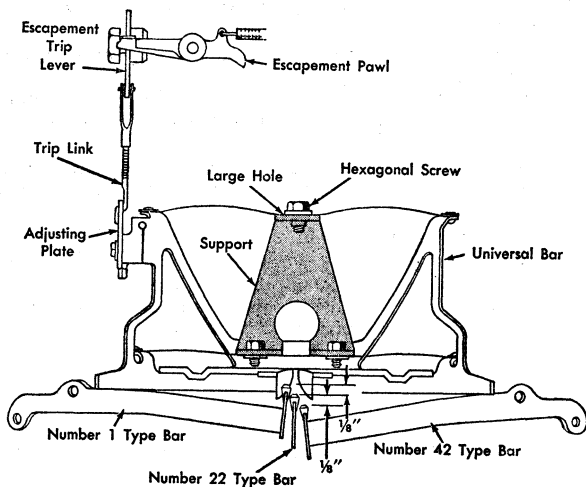
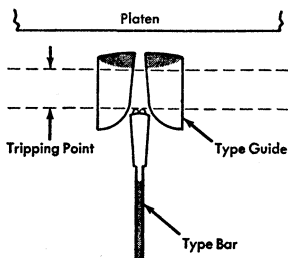

Figure 9. Universal Bar Adjustment
Figure 10. Escapement Tripping Point
2. UNIVERSAL BAR. Adjust so that all type bars trip the escapement pawl at the same distance from the platen. The rear spring of the universal bar is mounted to the support by a hexagonal screw which passes through an enlarged hole in the spring. To position the universal bar for an equal tripping point, loosen the screw to free the spring from the support (Figure 9). Then position the three type bars close to the type guide as shown in Figure 9, so that they hold each other in position. Tighten the screw to lock the universal bar in position and test the adjustment by operating the type bars by hand to observe that the tripping point is equal.
3. ADJUSTING PLATE ON UNIVERSAL BAR. Position this so that the escapement pawl will be tripped at the same point for both upper and lower case (Figure 9).
4. TRIP LINK. Adjust the link (Figure 9) to trip the escapement pawl when any type face is $3/8'' \pm 1/8''$ from the platen or within areas designated in Figure 10.